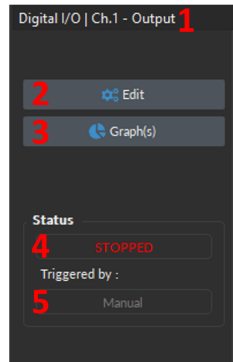
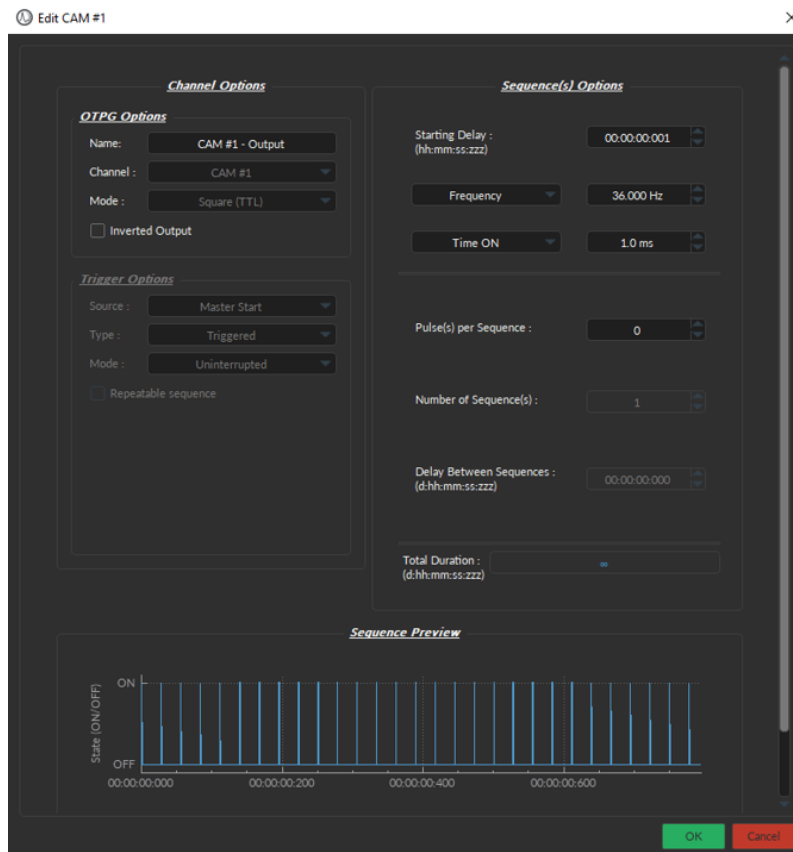
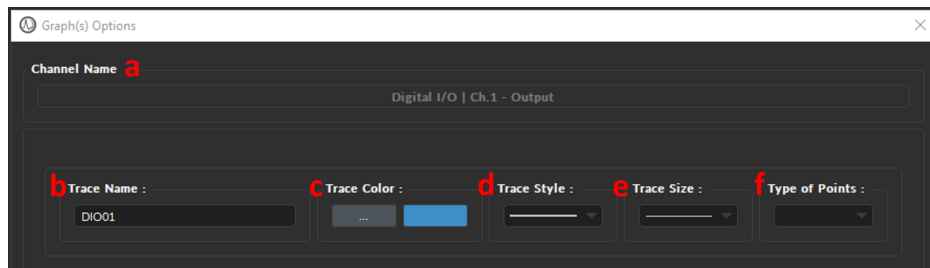
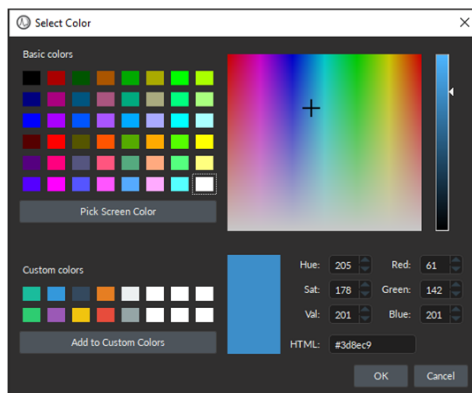

Figure 8.29: Digital I/O View, Control box
Figure 8.30: Edit Digital I/O parameters]
Figure 8.31: Graph(s) Options Window
Figure 8.32: Select Color Window
The following elements are contained within the **Control Box** of every Digital channel (Fig. 8.29):
1. The **Channel name** (Fig. 8.29, 1) is located on the upper left of the **Control box**, identifying the type of channel and its number, corresponding to that on the *Microscope Driver*.
2. The **Edit** button (Fig. 8.29, 2) opens the **Channel Configuration** window, where the preset digital outputs can be modified (Fig. 8.30). For details on individual parameters, see Section 8.4.1.
- The **Graph(s)** (Fig. 8.29, 3) button opens the **Graph Options** window (Fig. 8.31) corresponding to the channel whose graph will be modified. This window allows users to configure the visualization and naming parameters of each channel graph. If a channel has multiple traces, parameters to configure each trace individually will appear automatically on different rows. **Graph(s) Options** parameters are as follows:
- The **Channel Name** (Fig. 8.31, a) is the default name assigned by the software, which includes the type of channel (Digital / Analog In or Out) and the location of said channel on the console (BNC connector 1-4).
- The **Trace Name** text-box (Fig. 8.31, b) allows users to specify a name for the trace, instead of the default name generated by the software.
- The **Trace Color** button (...) (Fig. 8.31, c) opens the **Color Select** window (Fig. 8.32), which allows the selection of a trace color from a wide palette. The **Pick screen color** in this window allows the selection of any color displayed on the computer screen.
- The **Trace style** drop-down list (Fig. 8.31, d) allows the selection of the type of trace, from full to dashed lines. If the style chosen is empty, the trace will not be displayed.
- The **Trace size** drop-down list (Fig. 8.31, e) allows the selection of the trace size. Using a bigger **Trace size** than the default may result in slower display and performance degradation.
- The **Type of points** drop-down list (Fig. 8.31, f) selects the style data point used to demark instantaneous values on the graph. Using different point types than the default (none) may result in slower display and performance degradation.
- The **Status** bar (Fig. 8.29, 4) displays acquisition status. **STOPPED** is displayed when the acquisition is inactive, **STARTED** when acquisition is active, and **WAITING...** when the **Master Trigger** is set to *Triggered* (see Section 8.10a, no. 2).
- The **Triggered by:** (Fig. 8.29, 5) text-box displays the source of the trigger for that channel, which can either be Manual (i.e. selecting the **Record/Live** button) or a specific channel that provides external trigger signal.